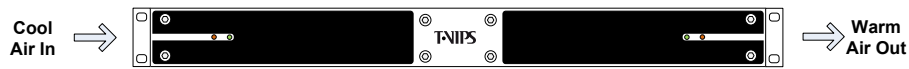

Figure 5.1 Air path through the unit
- This product should never be placed near or over a radiator or heat register. Do not place in a built-in installation (e.g. a rack) unless proper ventilation is provided in accordance with the device airflow design as depicted in Figure 5.1.
Figure 5.1 shows the air path through the unit, where cool air is taken from the left hand side, seen from the front.